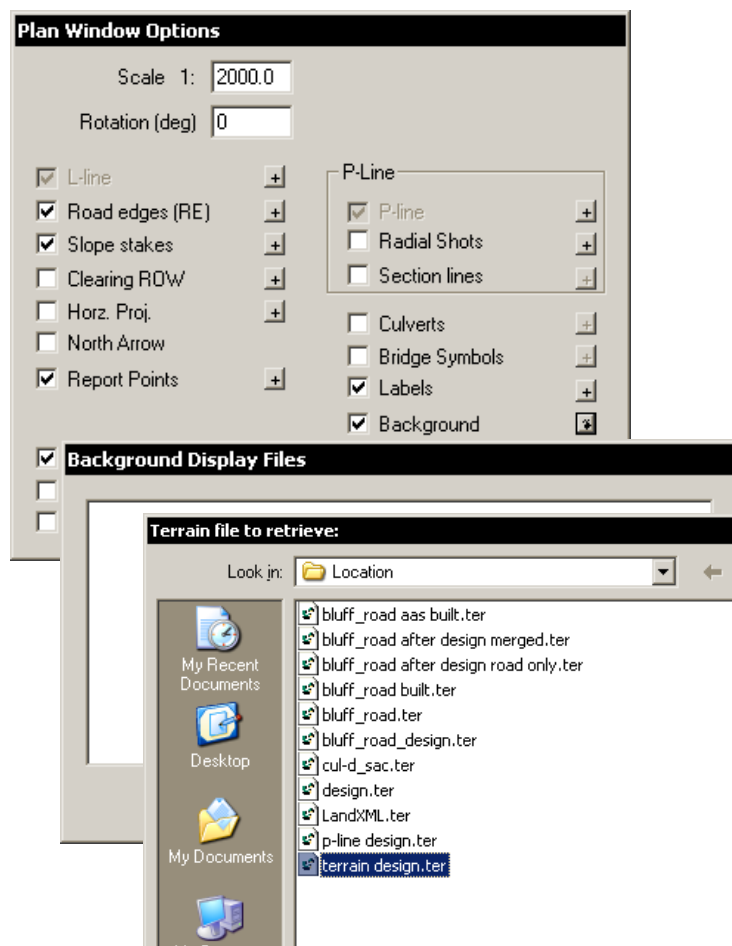

Figure 3.2: Adding a Terrain Background to the Plan Window
- Click on the  button beside the *Background* check box then click the *Add* button. Choose **\RoadEng\Tutorial\Location\terrain design.TER** (see Figure 3.2) Press *Open*, then *OK* and *OK* a second time to load the background image.